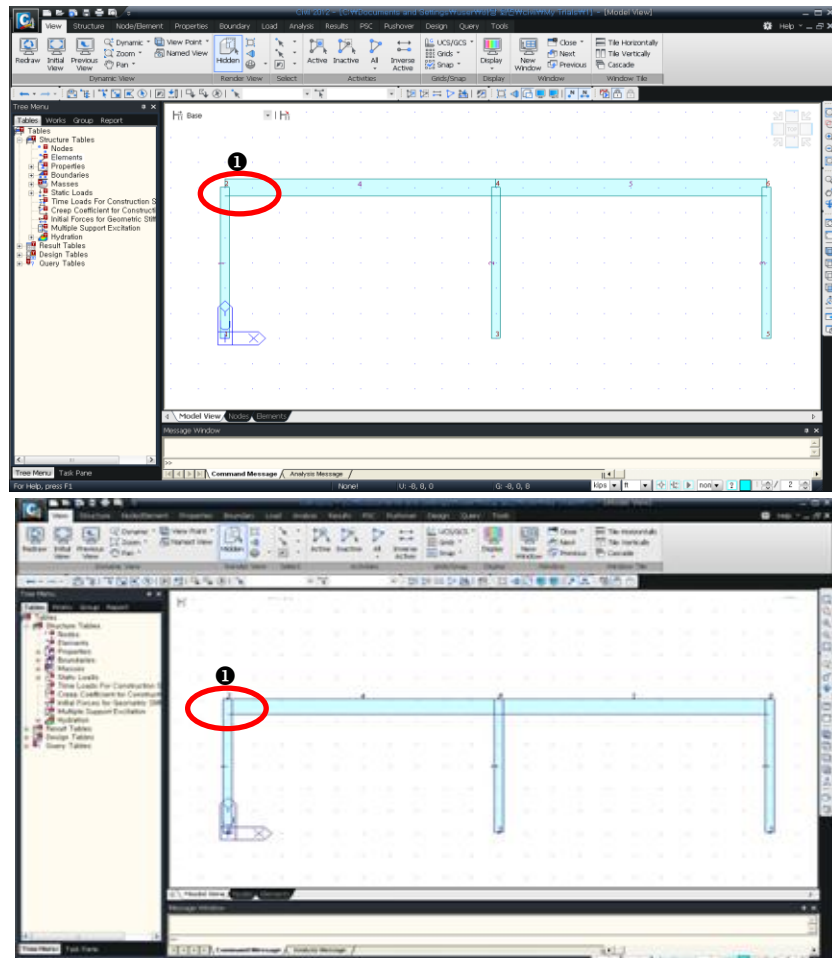

Figure 1.9 Generation of 2-D Frame
☞ Check (✓) Align Top of Beam Section with Center Line (X-Y Plane) for Display in Model> Structure Type of Main Menu. Then, the effect of the beam/column panel zone will appear as ❶ in the bottom of Fig.1.9.